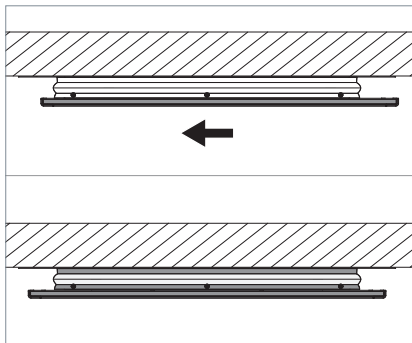

Fig. 10: Mounting the direct light element.
- Push the direct light element to the left as far as possible, see Fig. 10.